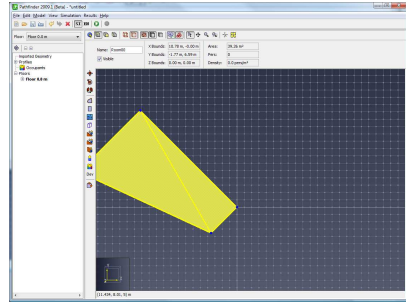

Figure 137. Rotated object
- The third defines a second vector extending from the rotation base (Figure 137). The rotation angle is the angle between these two vectors.